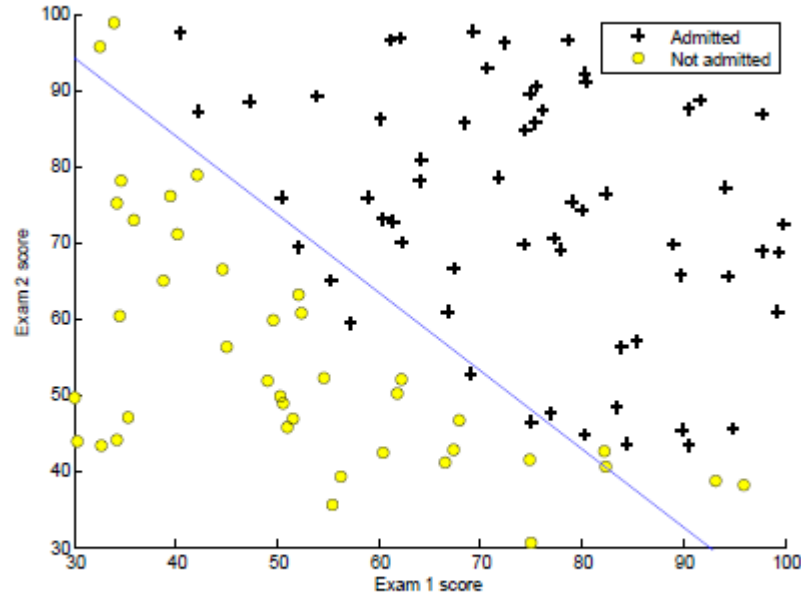

Figure 2: Training data with decision boundary
- Once `fminunc` completes, the remaining code will call your `costFunction` function using the optimal parameters of θ . You should see that the cost is about 0.203. This final θ value will then be used to plot the decision boundary on the training data, resulting in a figure similar to Figure 2. We also encourage